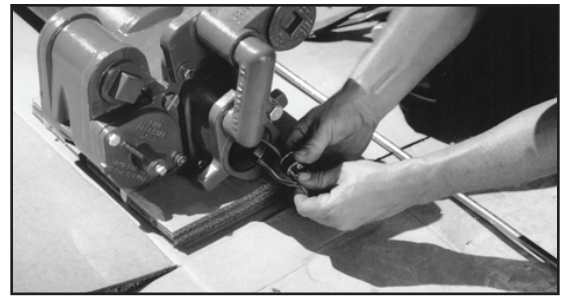

Figure 10: Wire Through Contractor's Plug
21. Place the three wires through the contractors plug assembly (from hardware pack p/n 400301XXX) as shown in figure 10.